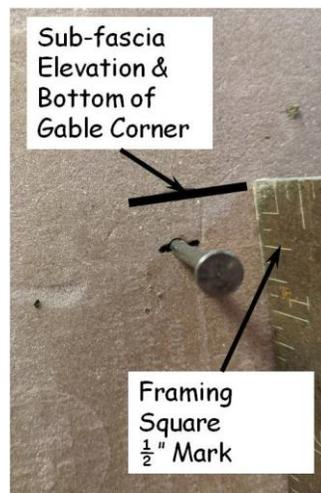

Figure 11-1. Siding Layout.
2. At each corner on the eave sides of the house, use a framing square to transfer the elevation of the bottom of the sub-fascia to the wall as shown in Figure 11-1. With the blade (long leg) firmly against the wall, slide the square up until the tongue (short leg) contacts the bottom of the sub-fascia, and make a mark on the wall at the top of the square (this will be the sub-fascia elevation and bottom of the gable corner blocking) and $\frac{1}{2}$ " below the top of the square (this will be the top of the siding corner, or bottom of the soffit). Drive an 8d nail into the corner stud at the vertical center of the $\frac{1}{2}$ " mark.